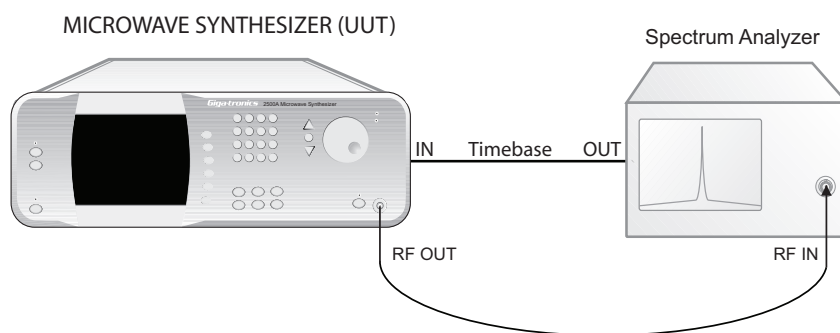

Figure 4-2: Spectral Purity Tests
- Connect the equipment as shown in Figure 4-2. Allow the equipment to warm up for at least 30 minutes. Set the 2500A to the first test frequency listed in Datasheet 2, and set the RF amplitude to +10 dBm or maximum leveled output (whichever is lower).